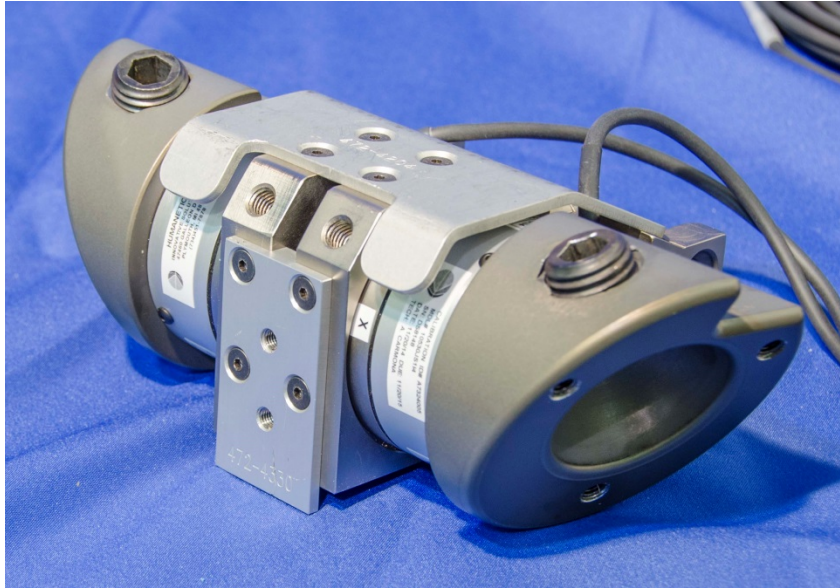

Figure 10-13.Front plate attached to load cell mounting plate
10.2.2.8 Bolt the Front Plate (472-4330) on to the front of the left and right load cell mounting plates using four M4 x 10 FHCS (Figure 10-13).